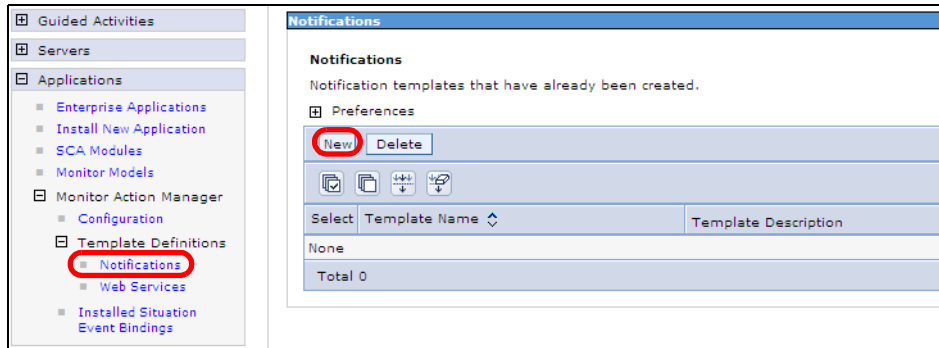

Figure 14-35 Monitor Action Manager configuration: Notification templates
- ▶ Click *New* (Figure 14-35).